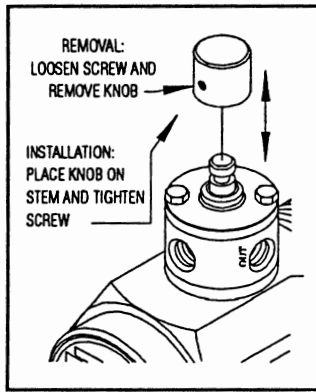

Figure 31. Override Knob removal/installation
- With a 1/16" hex (allen) wrench loosen Item 9 Set Screw and remove Item 30 Override Knob from Pilot Assembly (Figure 31).